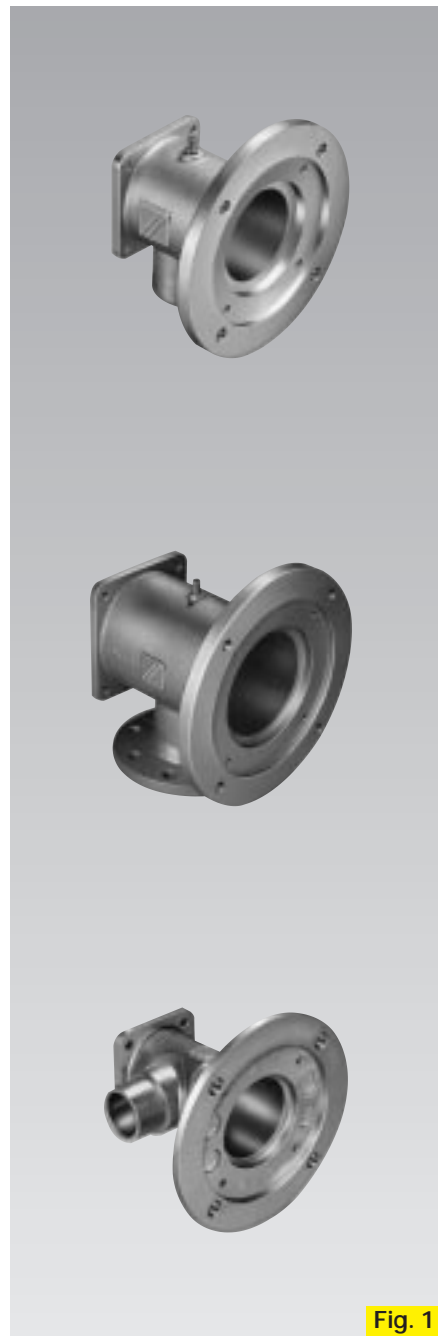

Fig. 1
1. Burner housing and burner mounting flange (Fig. 1)